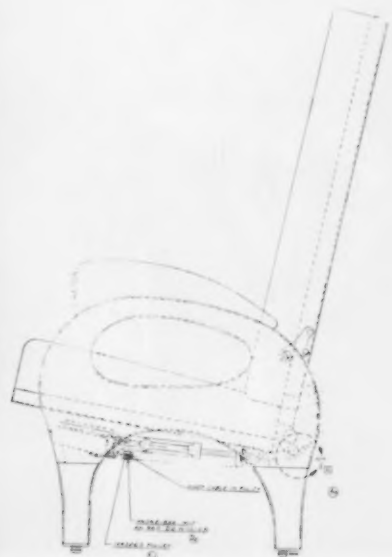

Fig. 3. DC-3, 1944.
Aircraft seating design didn't get off the ground until long after the planes did. The padded wicker chairs (1) which were used to furnish the Ford tri-motors and Fokker F-32's of the mid-1920's—for example—look to us now like something borrowed from the front porch of a provincial Mexican hotel. Wicker, along with other primitive furnishings like leather-covered bent-tube frames (5), lasted till the early 1930's. The seat designed for the DC-2 (Fig. 1) featured a reversible back, was built on an aluminum-alloy A-frame casting and upholstered with coil springs and hair pads. Seats for the DC-3 (Fig. 2) brought marked improvements in structure and comfort. The 1944 version of this seat (6, and Fig. 3) made first use of latex foam rubber to replace the heavy coil-spring cushions used till then. The seat specially designed for FDR's "Sacred Cow" (7) pointed the way to post-war style, and the DC-6 seats of 1946 (8/9) established it.